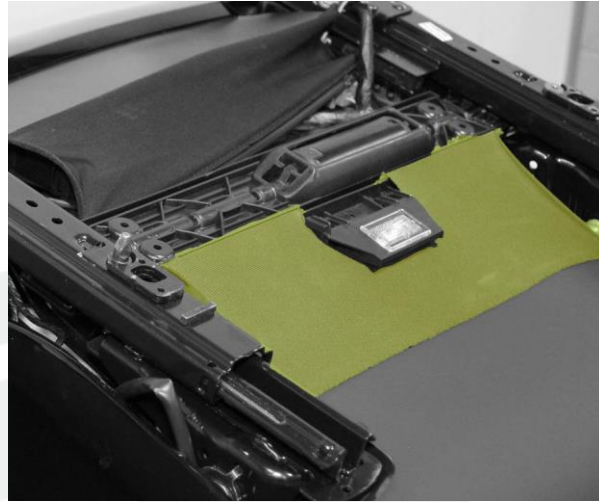

Figure 3 (Rear lower cover highlighted)
6. Use a pick or similar tool to release the rear lower cover from the underside of the seat (Figure 3).